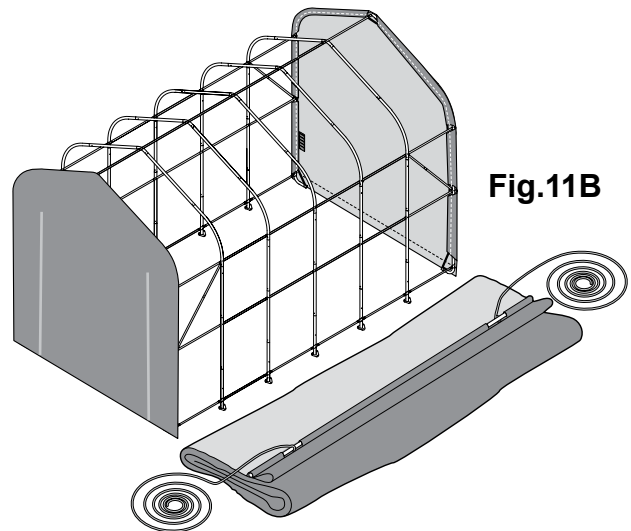

Fig.11B
B. Fold over the side closest to the frame so the pipe pocket is now accessible. Insert a cover pipe at the first middle rib from the front and the first middle rib from the rear so that it is inserted in the pipe pocket on both ends of the pipe but the center of the pipe is exposed. Fig. 11B